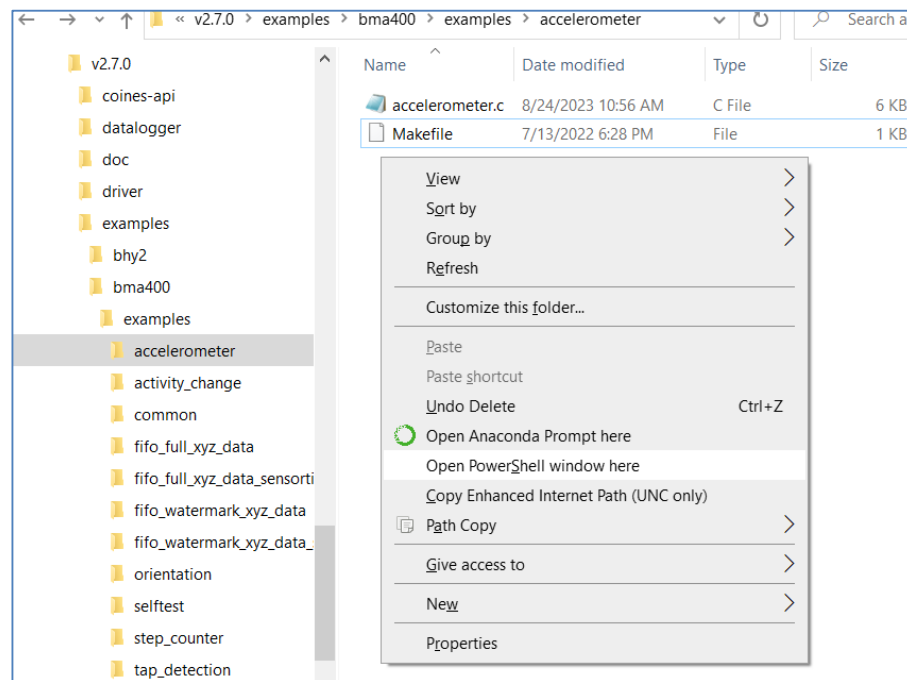

Figure 3 COINES example folder
- Go to folder C:\COINES\v2.8.8\examples\bma400\examples\accelerometer in Windows File Explorer. Then press and hold “Shift” key on the keyboard and then right click the mouse. Select “Open PowerShell window here” as shown in Figure 3.